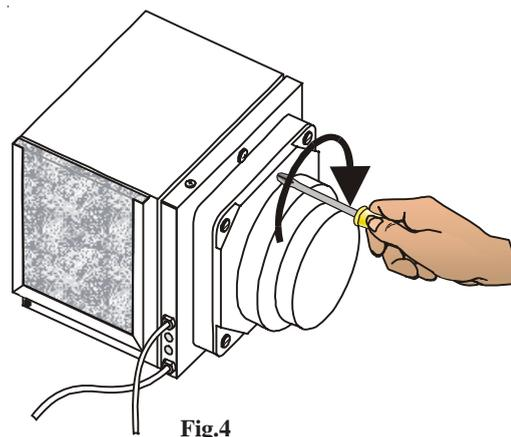

Fig.4
- 3.11 Hinge the cover closed and secure with the fixing screw (See fig. 4)